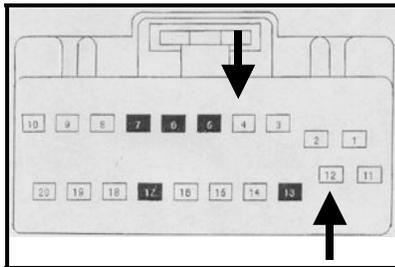

Figure 11.
- A. Locate the larger of the two connectors for the instrument cluster. Tap into the white/blue wire coming from the pin# 12 as seen in figure 11 and connect to the white/blue wire on the Pod harness using another quick splice connector.